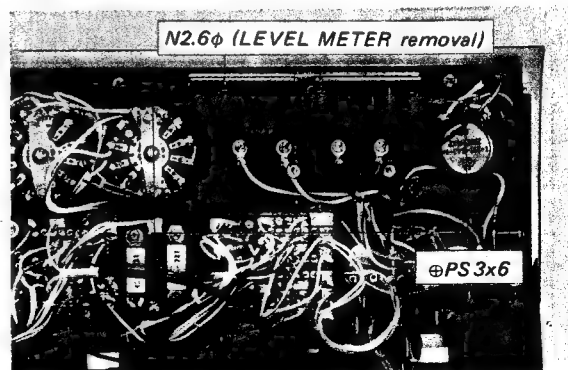

Fig. 2-6. Meter bracket removal
2. Remove the four screws (⊕ PS 3x6) securing the meter bracket to the front subchassis as shown in Fig. 2-6. This frees the meter bracket.